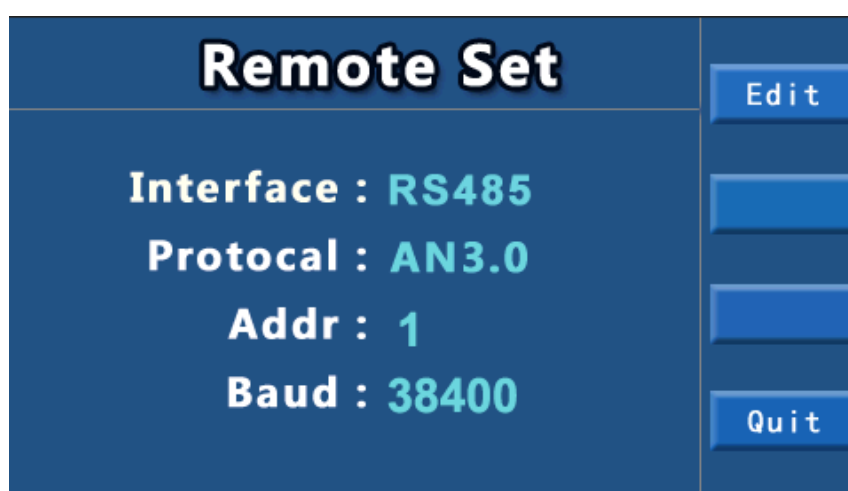

Figure 3.2.5 Power supply 485 communication setting
(2) Power supply setting: Press **F4** under the general interface to enter "Comprehensive Setting", and then press **F1** to enter "Communication Setting" for editing. If 485 communication is selected, as shown in figure 3.2.5, the communication interface is selected as "RS485", the communication protocol is selected as "AN3.0", the address selection is consistent with "Device Number" of the computer, and the BaudRate selection is consistent with "BaudRate" of the computer.